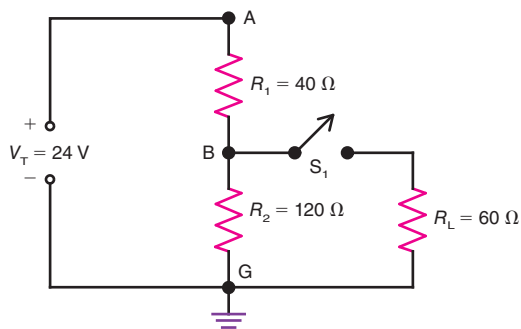

Figure 7-36
- 7.31 In Fig. 7-36, calculate I_1 , I_2 , I_L , V_{BG} , and V_{AG} with
- 7.32 In Fig. 7-36, explain why the voltage, V_{BG} , decreases when the switch, S_1 is closed.